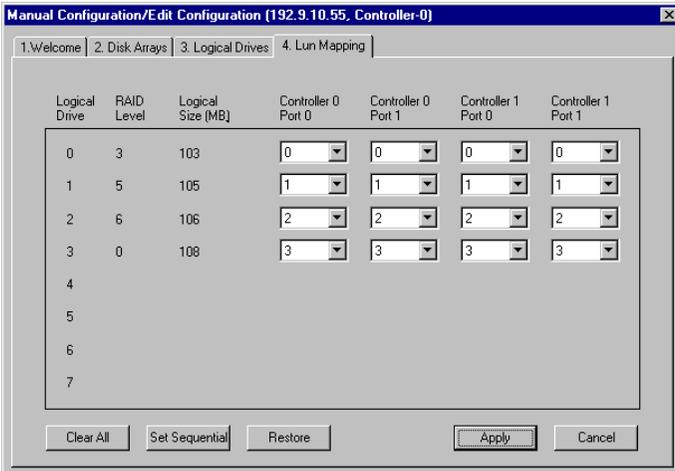

Figure 4-49. Select “LUN Mapping”
After configuring the desired number of logical drives on the Mylex External RAID Controller, click the LUN Mapping tab in Manual Configuration (Figure 4-49). (The Controller-Port columns are shown or not shown depending on the current controller configuration of host ports and duplex controllers.) By default these logical drives are made available to all existing host ports in the configuration. LUNs are assigned automatically in sequential order for each port.
- The **Set Sequential** button sets all LUN assignments sequentially on all available ports. This reproduces the default shown back in Figure 4-49 unless LUN Balancing is in effect.